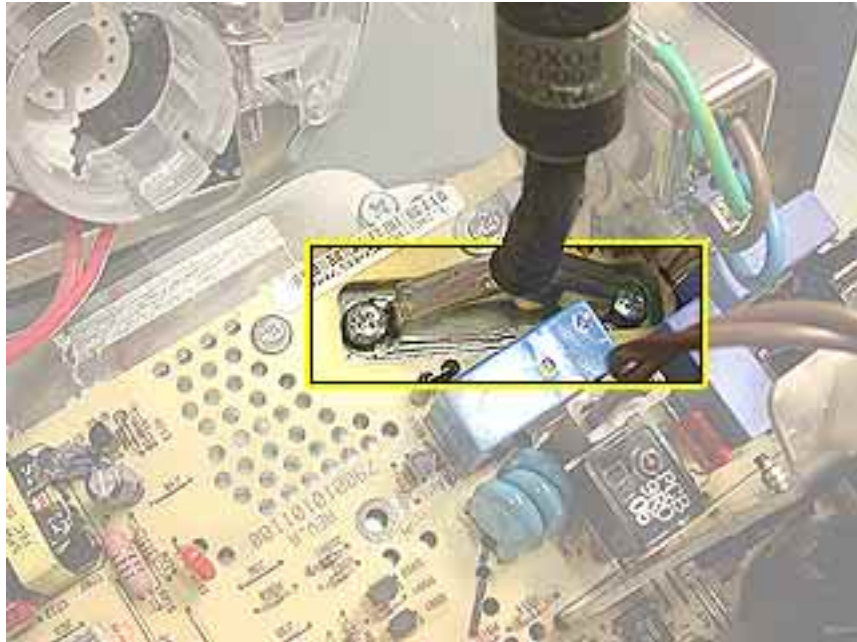

Figure 3 RGB Cable Connection
3. Check the connection of the RGB cable to the logic board. (see Figure 3).